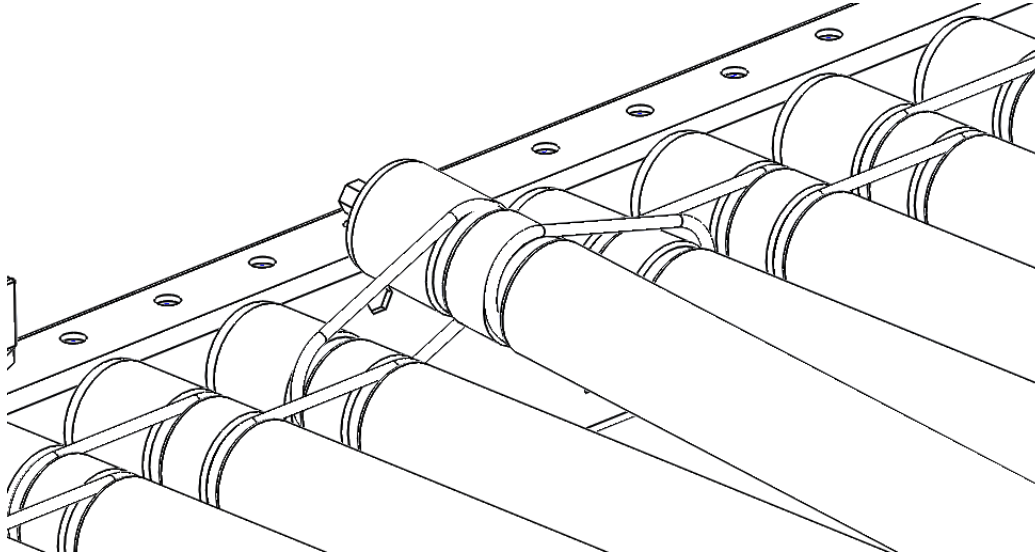

Figure 6: MDR Removal-3
4. Provide upward force on the roller body until the hex is sitting above the side frame as shown in Figure 6. A putty knife or other flat surface tool is recommended to be placed between the hex shaft and the inside of the frame. This will help protect the paint on the side frame.